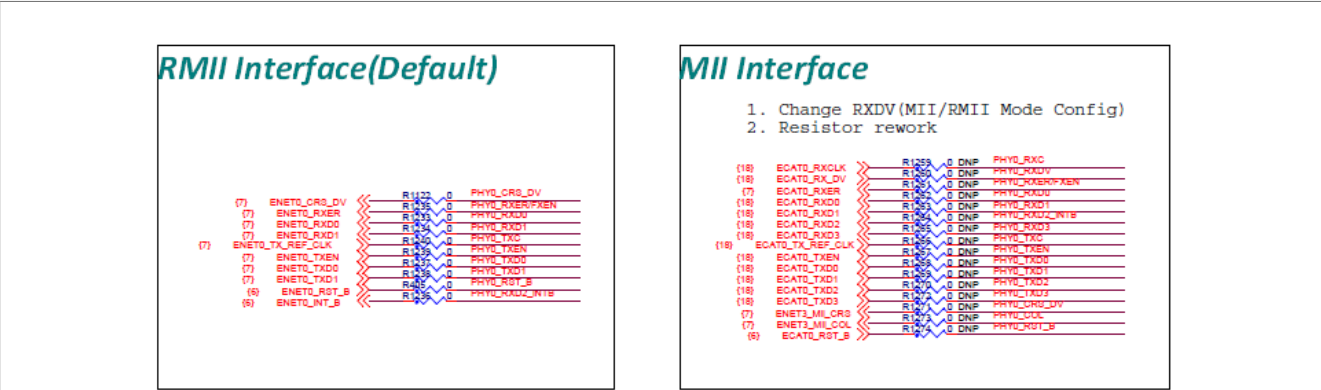

Figure 13. Resistor rework to support MII using ENETO
1. To use the PHY0 in MII mode, resistor rework is required as shown in Figure 13.